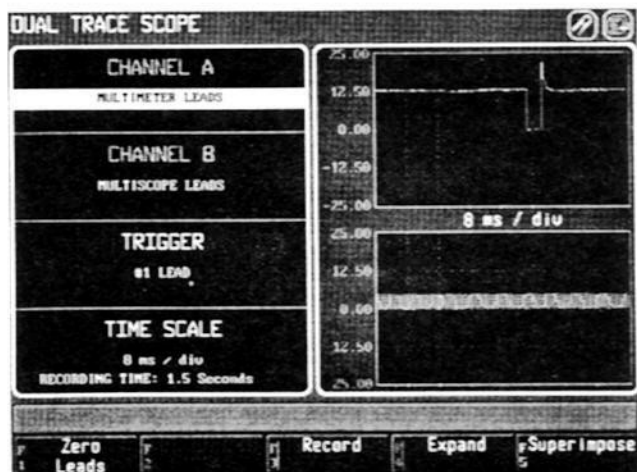

Figure 3-47
2. The *DUAL TRACE SCOPE* screen will now appear (see Figure 3-47).